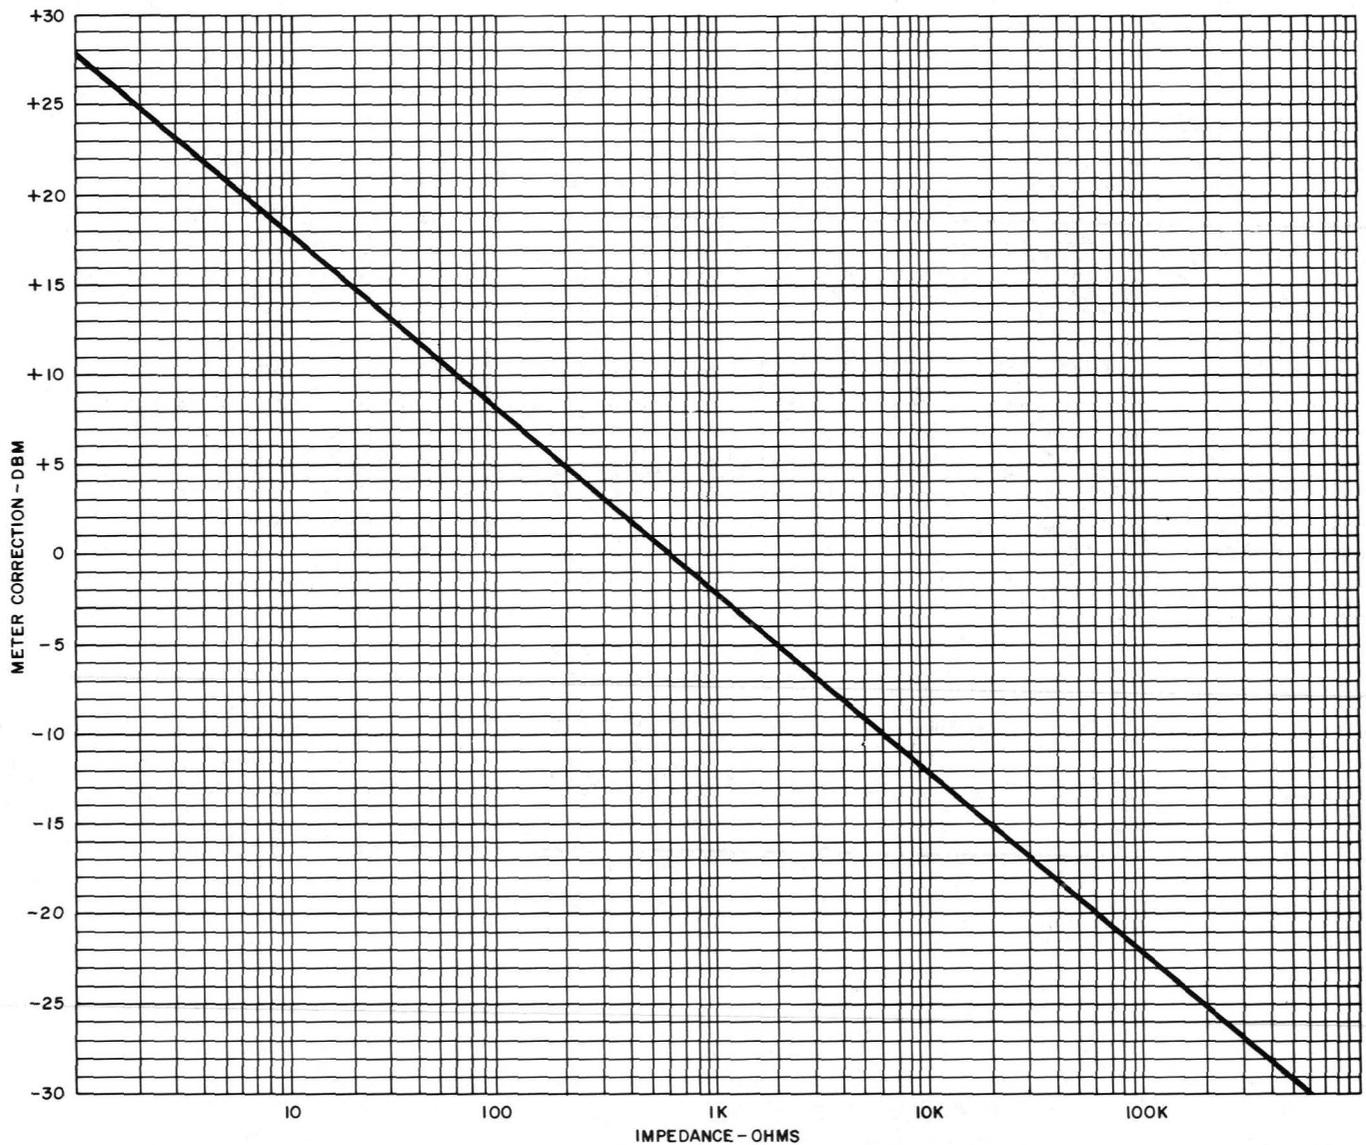

Fig. 3—DB Correction Chart
**3.23** Refer to Fig. 3 for decibel correction for impedance other than 600 ohms.